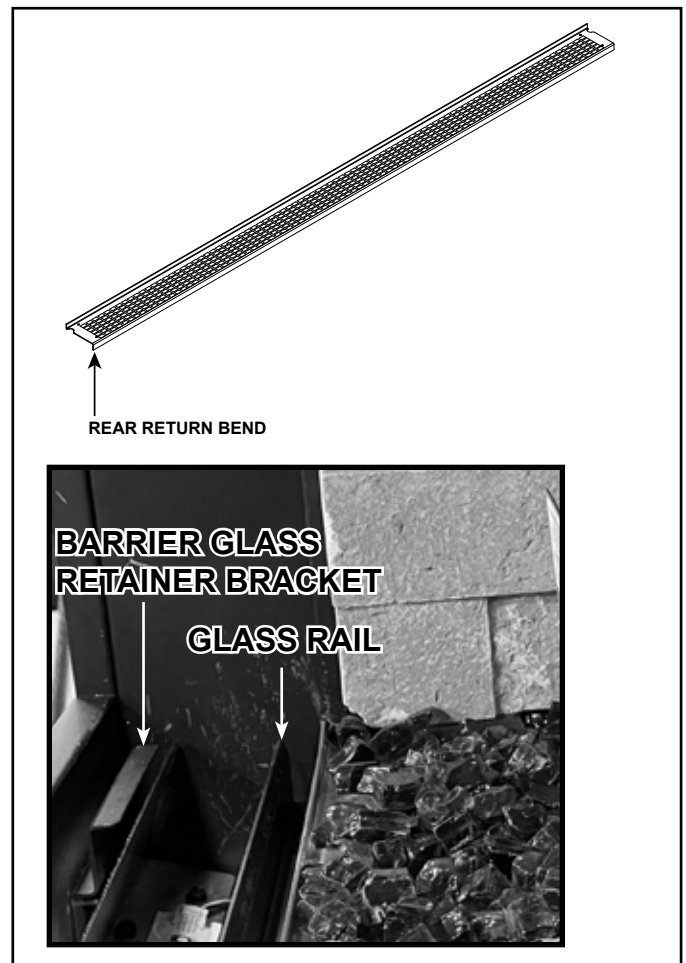

Figure 11.19 Install Transition Media Tray
- Set and press the transition media tray into position as shown in Figure 11.19. The rear return bend should be positioned in between the glass frame and the glass rail. The front of the media tray is seated on the SafeSurface barrier glass retainer bracket.
3. Ensure no glass media is in the SafeSurface barrier glass retainer bracket. Set the glass into the barrier glass retainer bracket, located behind the sheet rock ledge and the front side of the transition media tray. Center the glass left to right. See Figure 11.19.